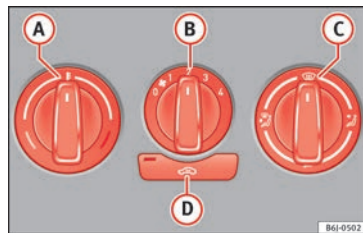

Fig. 143 Heating controls on the dash panel.
- Use turn controls ①, ② and ③ » Fig. 143 to adjust the temperature, blower speed and air distribution.
- Press the ④ button to switch air recirculation mode on or off. When the function is activated, a warning light on the button is turned on.
- Press button **(D)**  Fig. 143 and the lamp in the button will illuminate.
If the rotary switch **(C)**  Fig. 143 is in the thaw position, the recirculation flap will always be open and air will always enter from the outside.
- Turn the temperature selector  Fig. 143 **(A)** anticlockwise.
- Turn the temperature selector  Fig. 143 **(A)** clockwise to select the desired temperature.
- Turn the temperature selector  Fig. 143 **(A)** clockwise to reach the maximum temperature.
- Turn the temperature selector **»» Fig. 143 (A)** to the heating area.